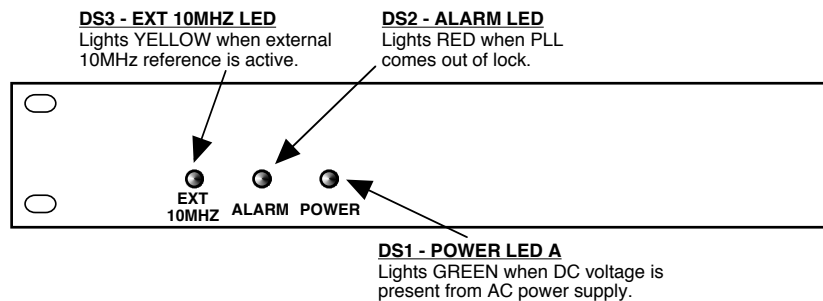

FIGURE 2.2 2116-172183 Front Panel Controls and Indicators
- 4.) Be sure DS1 (green, DC Power) is on and DS2 (red, Alarm) is off (Figure 2.2).
- 6.) If EXT is selected or AUTO is selected and there is a 10MHz, 0 dBm signal at J2, check that DS3 (yellow, Ext 10MHZ) is on (Figure 2.2).